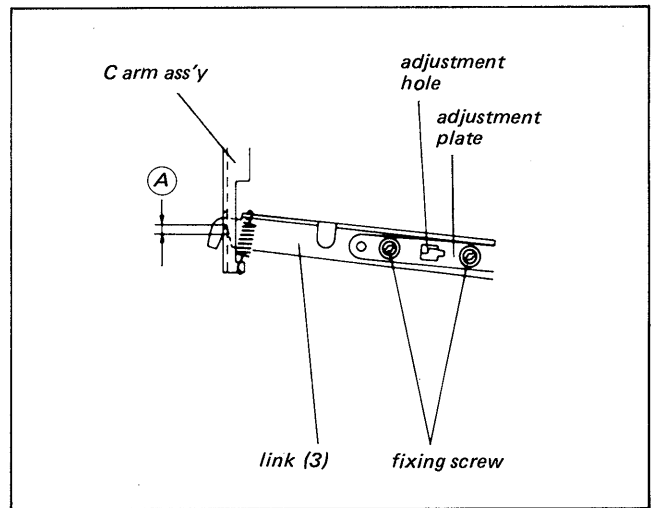

Fig. 3-3
4. Adjust the adjustment hole as shown in Fig. 3-3 so that the hole of the C arm ass'y and the space (A) of the link (3) meets 0.6 to 1.5 mm.